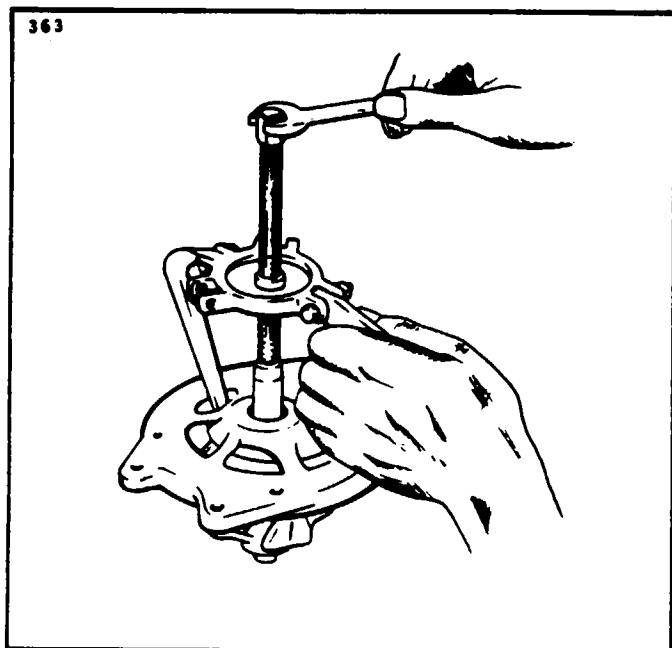
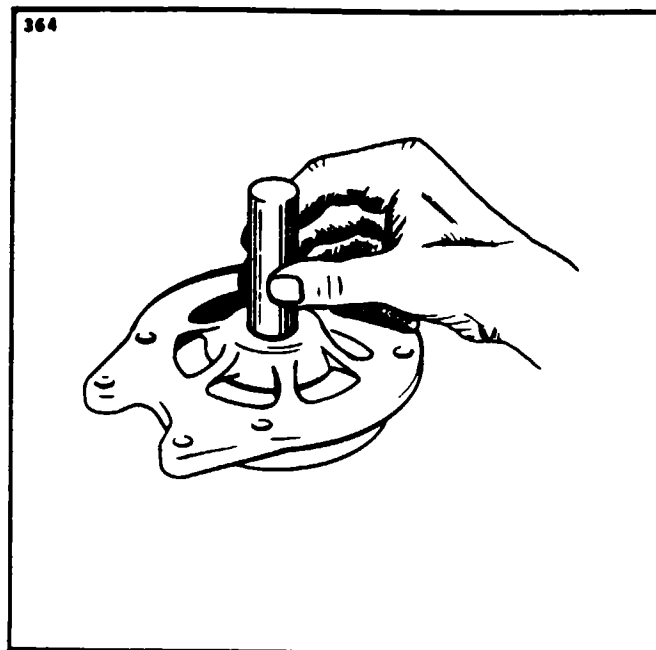

Figure 11-7. Removal of Drive End Head
Figure 11-8. Removal of End Head Bearing
f. To remove the drive end head from the rotor shaft, use a puller that grips on the bearing retainer plate as shown in Figure 11-7. Do not attempt to remove by supporting the end head and pressing on the shaft, as this may result in distortion of the end head or stripping of the retainer plate screws. Remove the three retainer plate screws and press the bearing out of the end head. (Refer to Figure 11-8.)